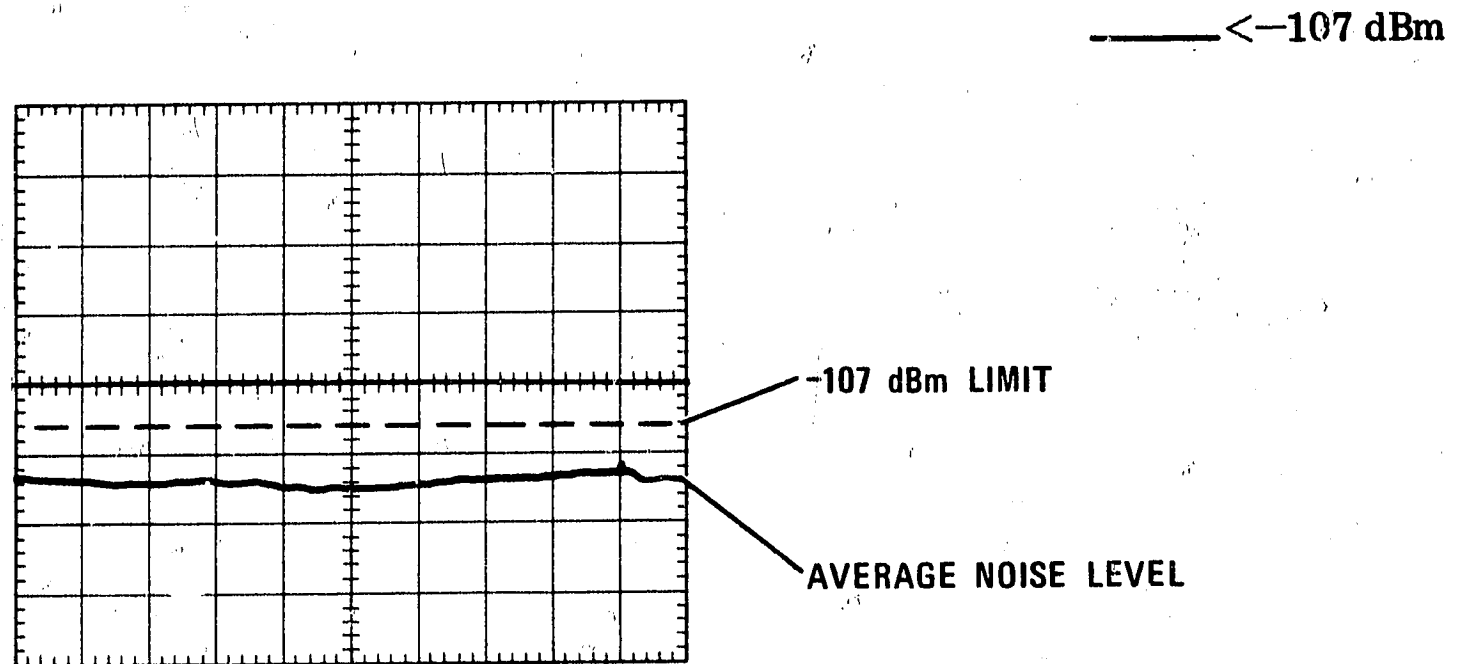

Figure 4-13. Average Noise Level Measurement
2. Tune down in frequency to the LO feedthrough; center the LO feedthrough on the lefthand graticule line (thus the center frequency is now 1MHz). Without retuning, set FREQ SPAN/DIV to 10 KHz, VIDEO FILTER to MAX (in detent). Observe the average noise level displayed on the CRT. The noise level should be less than -107 dBm. (See Figure 4-13.)